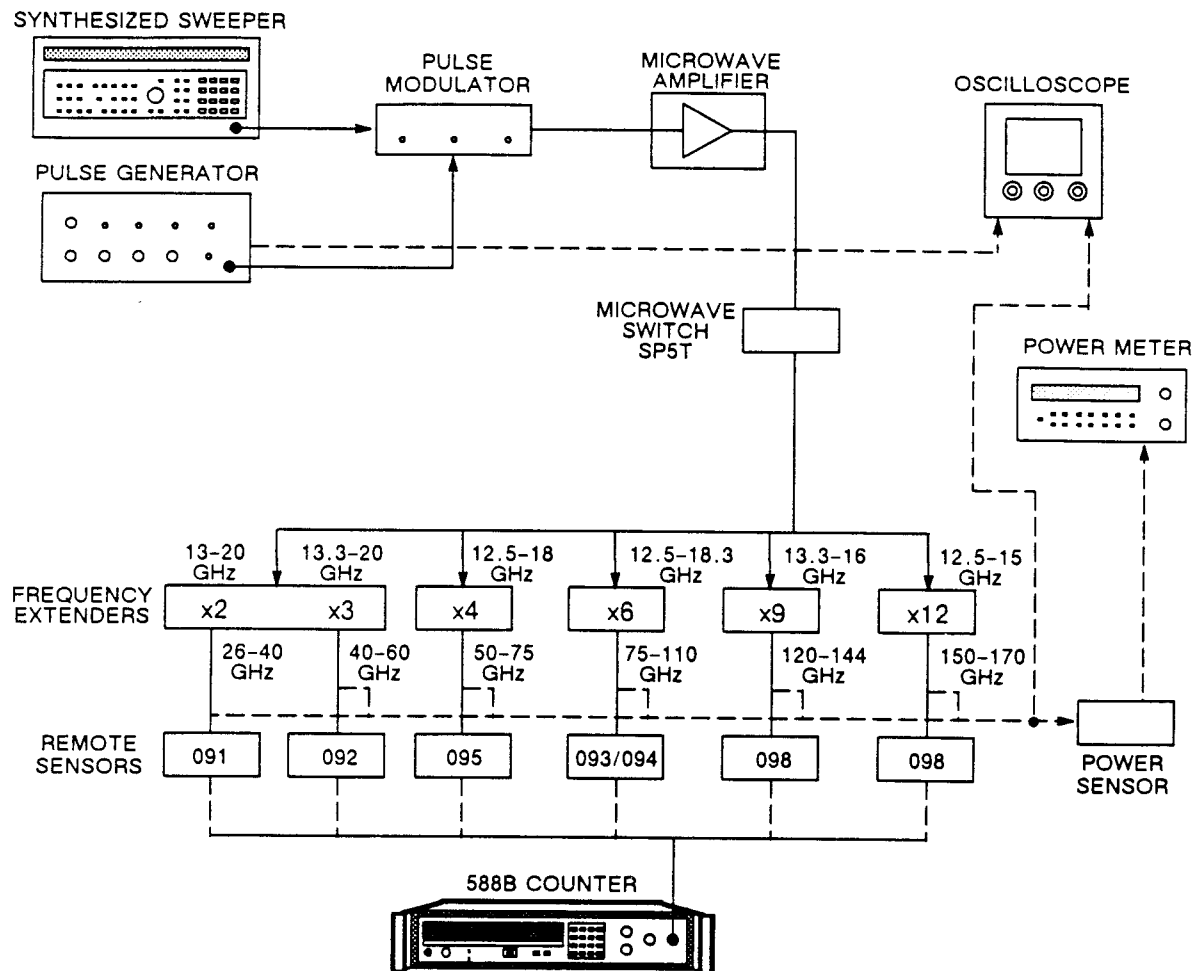

Figure 11-7. Distortion Error Test Setup.
1. Connect equipment as shown in Figure 11-7 and turn equipment on.